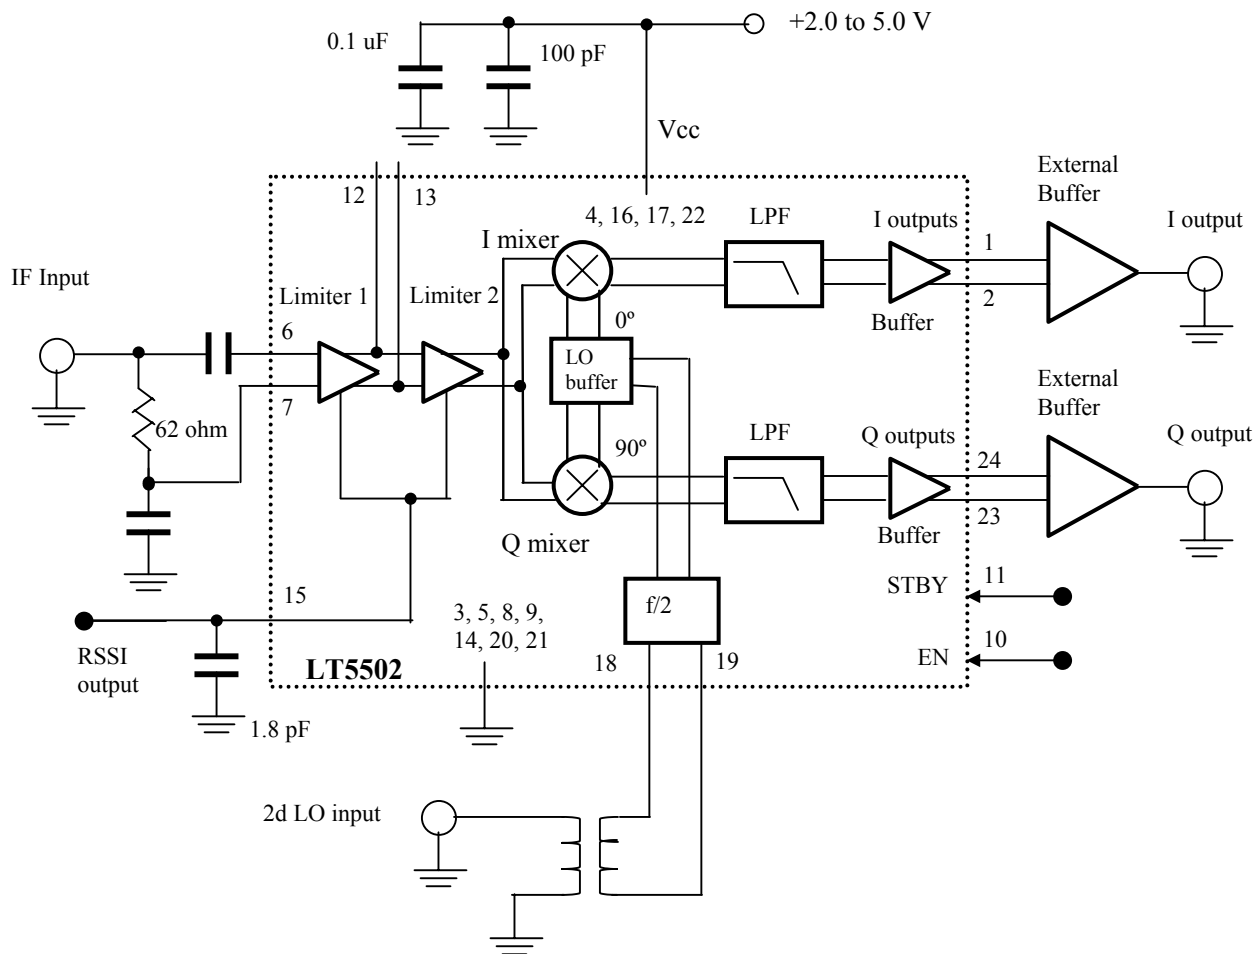

Figure 1. Demo board DC333A block diagram.
The LT5502 consists of an IF limiting amplifier with 84dB small signal gain, quadrature-converting mixers, low pass filters, and an RSSI section. Figure 1 shows the LT5502 block diagram. In operation, an IF signal is limited by high gain amplifiers, and is then demodulated into in-phase (I) and quadrature (Q) baseband signals using quadrature local oscillator (LO) carriers that are generated on-chip from an external 2xLO signal. The demodulated I/Q baseband signals are passed through fully integrated 5th-order low pass filters and output drivers. Demo board DC333A has additional output drivers, which provide 50-ohm output impedance.
This circuit offers a simple and economical solution for single-ended-to-differential conversion, although with a penalty of reduced sensitivity. A 62 ohm resistor provides broadband 50-ohm impedance matching. The cascaded NF for the IF circuit is degraded by 2.0 dB. Figure 1 shows a version of the demo board DC333A with 62 ohm terminating resistor.